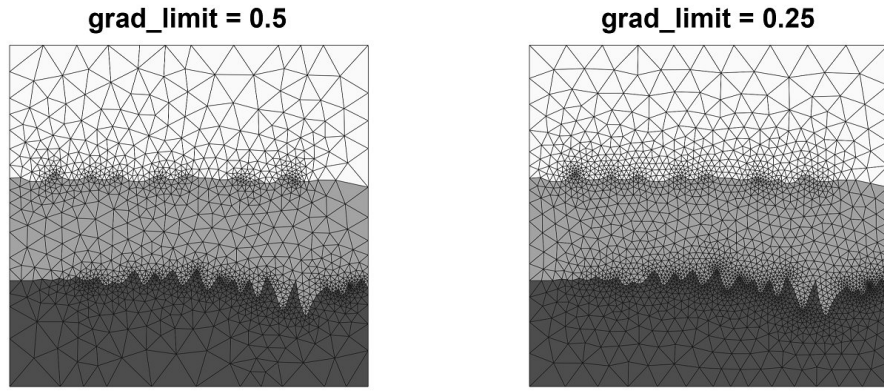

Figure 10: Effect of *Gradient-limit*
- *Gradient-limit*: A limit on the gradient of mesh-size function (Figure 10).⁶ Type: Float. Range: > 0 . Typical value: 0.15 - 0.4.